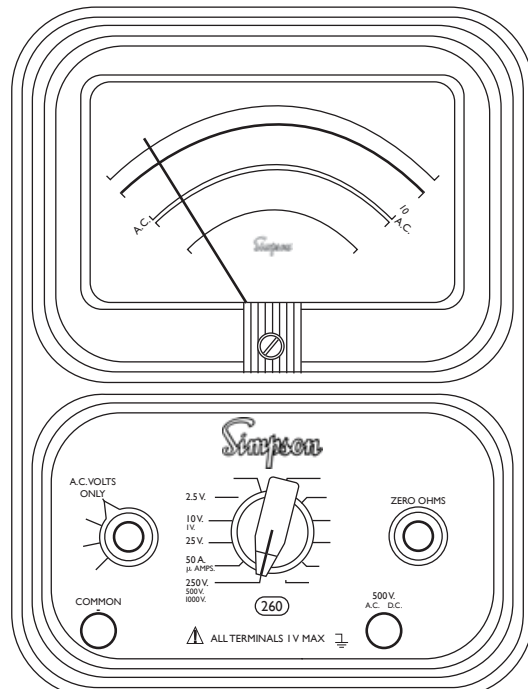

FIGURE 4-7. Jacks and Switch Positions for Measuring AC Voltage 0 Through 1000V Range
- Set the function switch at AC (Figure 4-7).